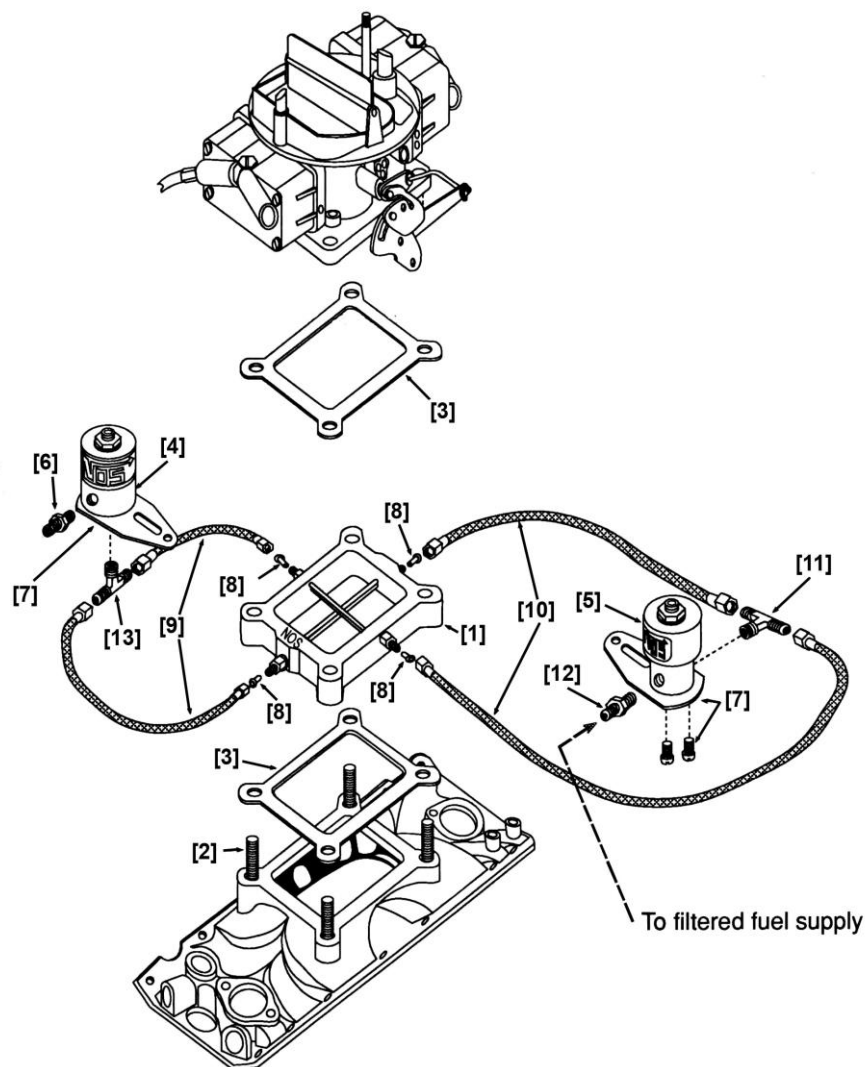

Figure 2 Crosshair™ Plate System Kits 02153NOS & 02154NOS—Assembly Drawing
6. Install the extended carburetor studs (2).
7. Install the injector plate (1) and gaskets (3) on the intake manifold with "THIS SIDE UP" facing up and forward. See Figure 2 for the illustration of the part installation. This places the fuel inlets on the plate towards the front and driver's side of the vehicle for the 4500 flange plates and the fuel ports to the driver's side and rear for the 4150 flange plates.
Use the following procedure to install the nitrous solenoid (4) and fuel solenoid (5). See Figure 2 for the illustration of the part installation.